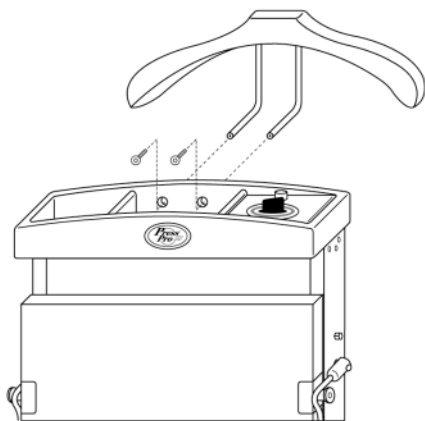

FIGURE 2
4. Attach Clothes Hanger Hook to top of unit. To do this, align holes on end of each metal connector arm with holes on top/back side of unit. Slide 1 small screw through each of the two holes, and tighten them securely into place using Allen wrench (FIGURE 2)